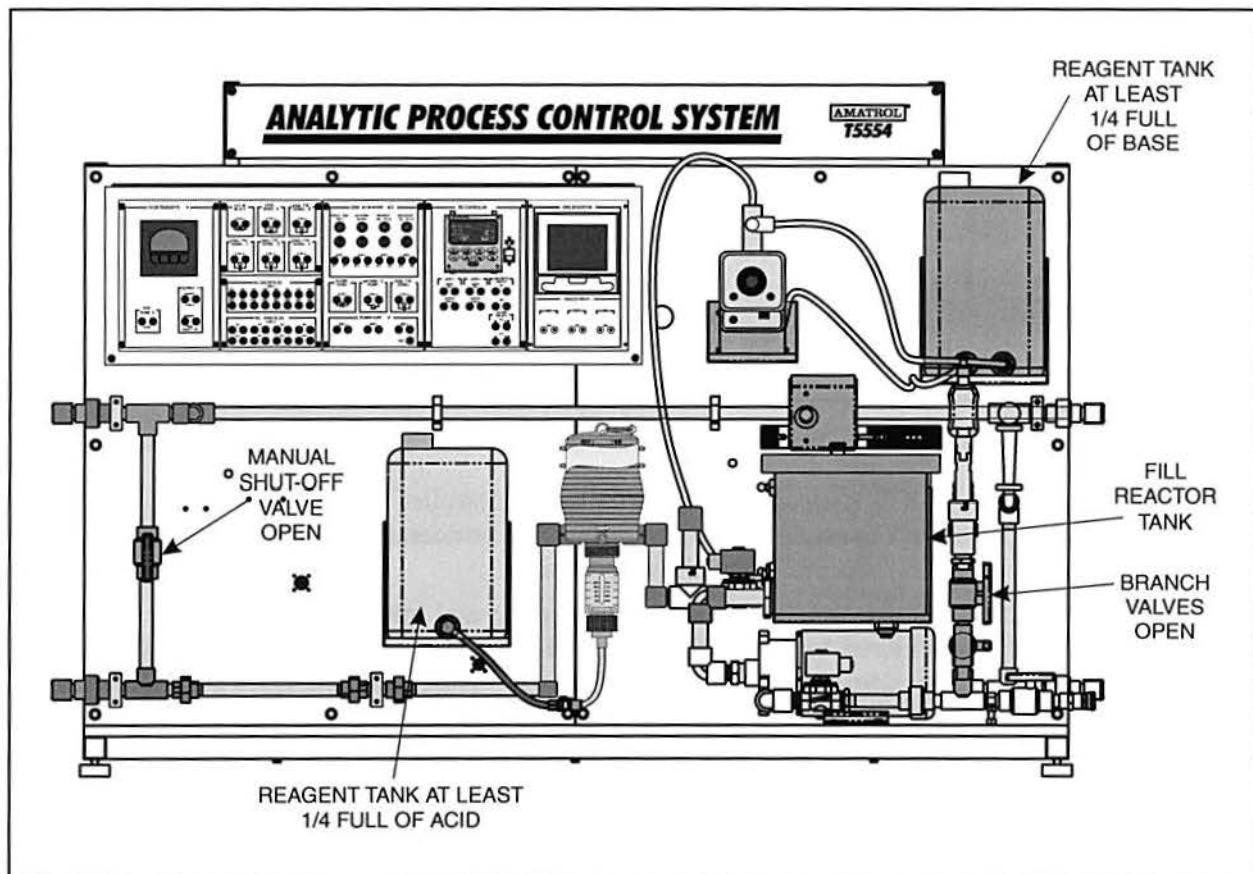

Figure 51. T5554 Setup
- 1. Perform the following substeps to make sure the T5554 Analytical Process Control System is set up as shown in figure 51.